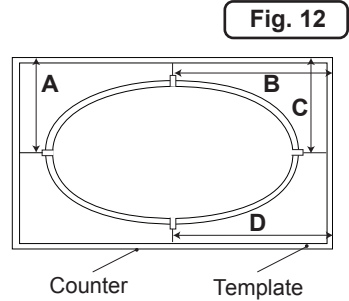

Fig. 12
- Measure the distance from the wall, or other fixed point, to the center lines (Figure 12).